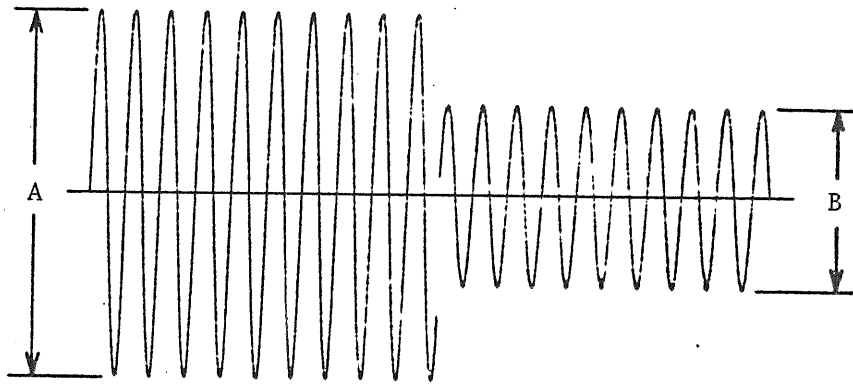

Fig. 12
- (3) Comparison of amplitudes of CHL and CHR:
To compare the amplitudes of CHL and CHR, set the MODE switch (9) in the H state for the horizontal dual-trace operation and adjust the sweep at an appropriate speed. Denoting the amplitudes of CHL and CHR by A (DIV) and B (DIV) as shown in Fig. 12, the differential amplitude is calculated as follows: